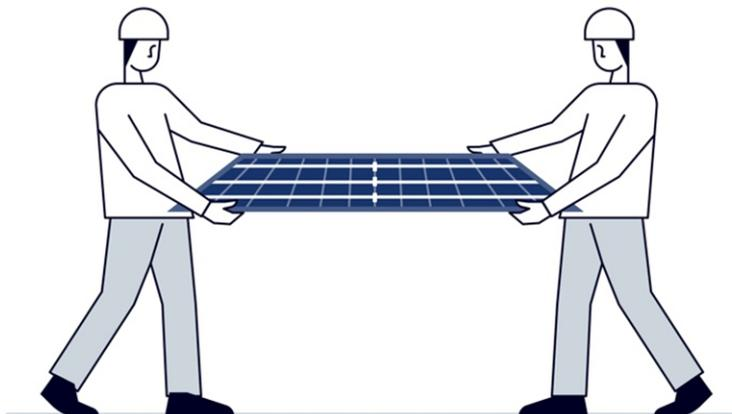

Figure 18: Module handling.
- g) PV Modules must be grabbed from the aluminum frame with two hands (Figure 18).